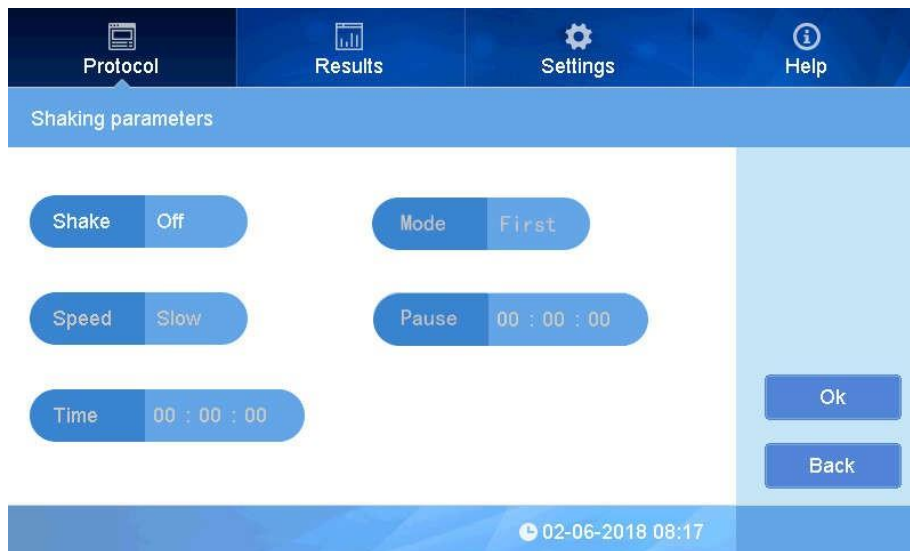

Fig.22
- On “protocol” interface, click area near “Shake” to “Shake parameters” to set shake function On or Off, speed and time(Fig 22).